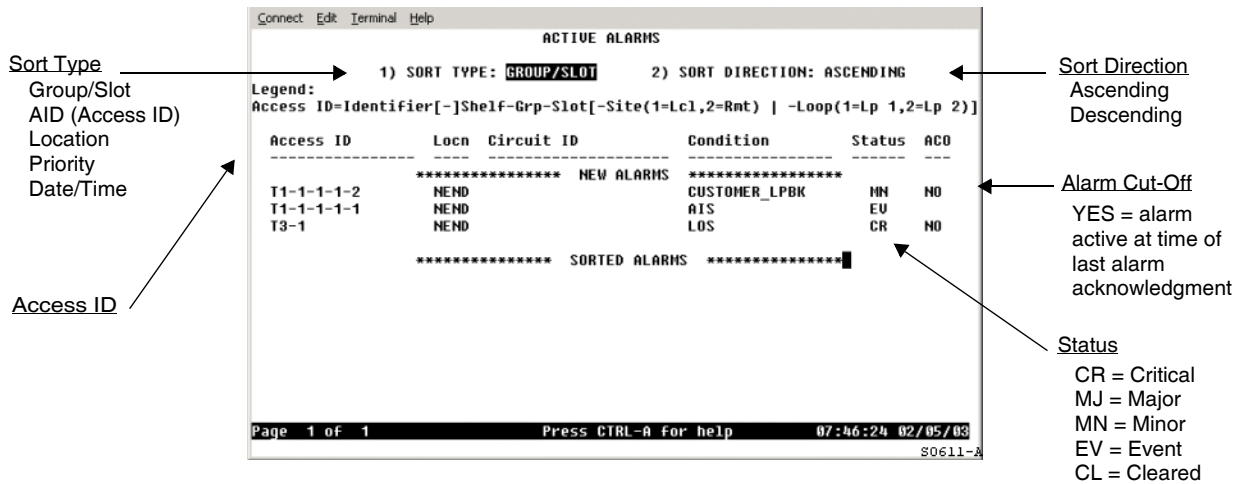

Figure 20. Active Alarms Screen
- 2 Select **1. Display Active Alarms** to display the Active Alarms screen (see Figure 20).